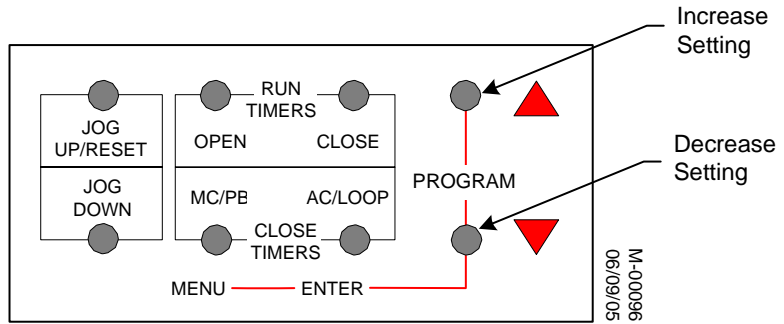

Figure 4-22: Change Setting
2. Press and release the **PROGRAM** buttons to change the countdown time to the desired duration. See Figure 4-22.